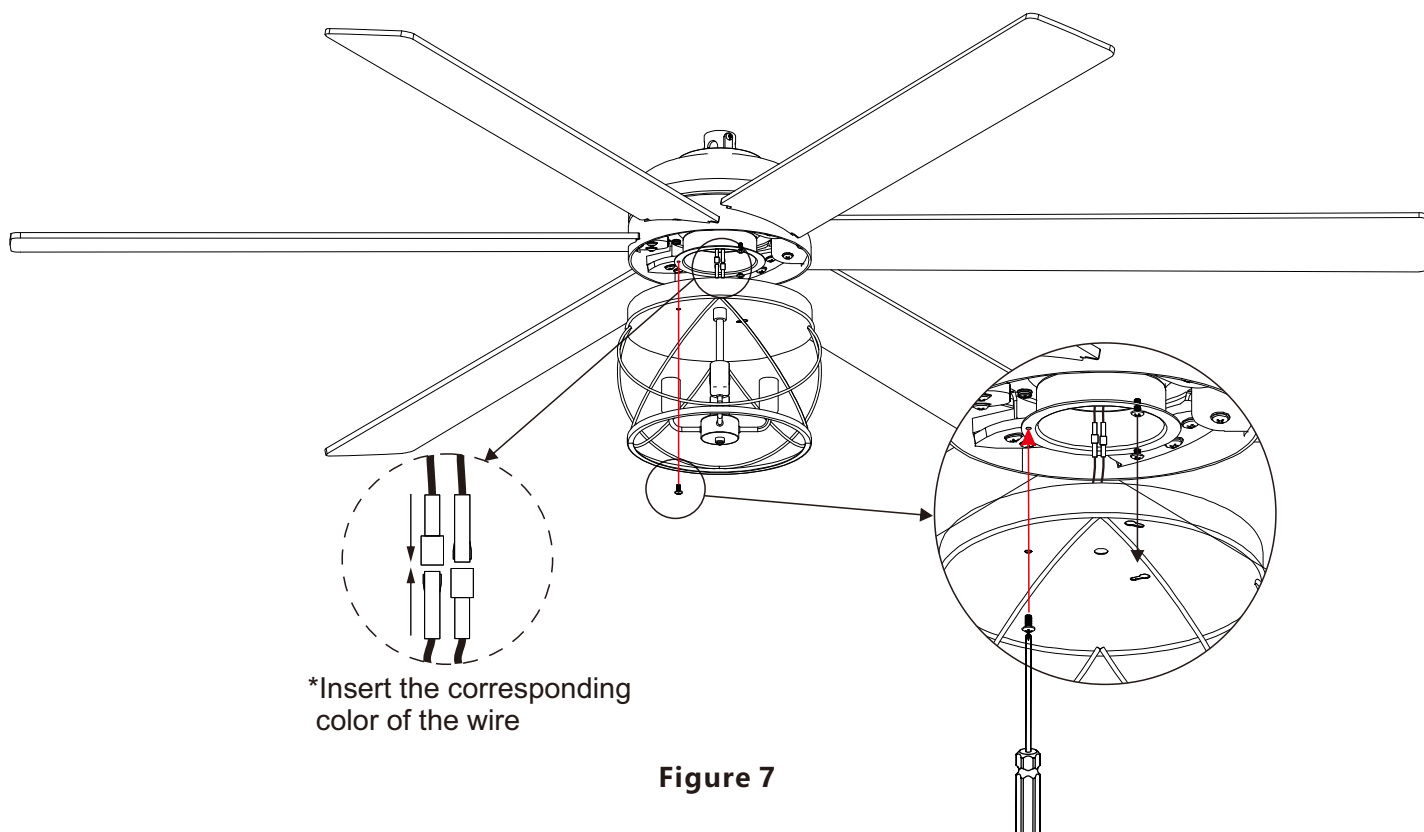

Figure 7
Step 2. Connect the light-kit wires to the main-unit wires by matching colors.(Fig.7)
Step 3. Tuck the wires into the junction box, align the keyholes on the light kit with the two screws underneath the main unit, push in and rotate until seated, then reinstall and tighten the screws removed in step 1.(Fig.7)